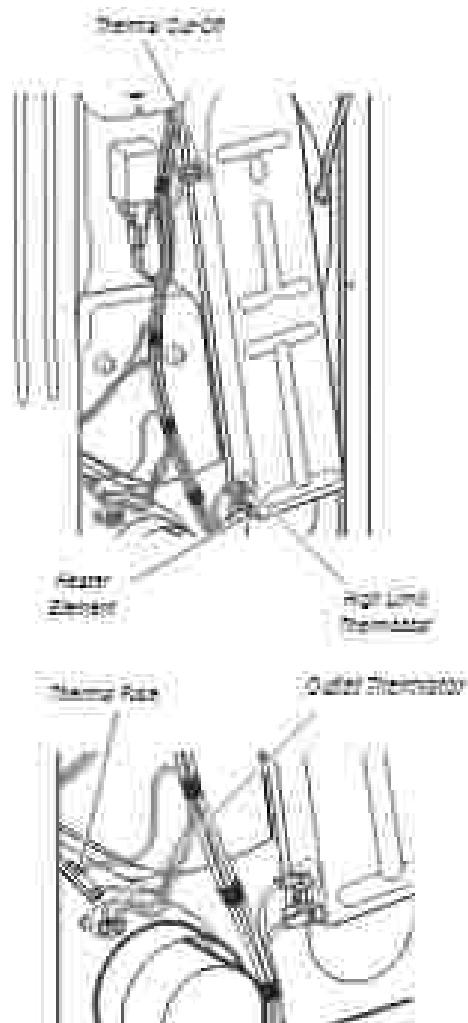

Figure 8 - Thermal components, electric dryer.
Locate the component using figures 8 and 9, page 23 and 24. To access heater system components, remove the back panel.
- If the ohmmeter measures an open circuit, replace the thermal fuse. See Figures 8 and 9. Pages 33 and 34 for location.
3. Using an ohmmeter, check the continuity across the thermal cut-off. See Figures 8 and 9. Pages 21 and 22 for location.